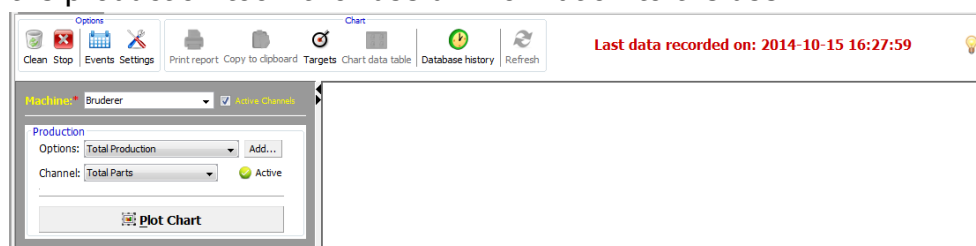

Figure 15: Last data logging time
Upon selection of a Machine and its production modes, its' corresponding channel is automatically selected for the user as shown in Figure 15 below. The channel is shown as active and the *last date time of the data logged* via this channel is shown in the white empty space on the toolbar (1). Production options selection also shapes the view of the production toolkit for useful information to the user.
Clicking on the "Database history" shows an interface Figure 15 to display the raw data from the database for all machines configured with the SmartFactory hardware. In case a machine was selected, the machine name is selected as the one the user wants to have a look at the data history. A starting point in time to view the data history is also provided for the user just to ease his view of search.